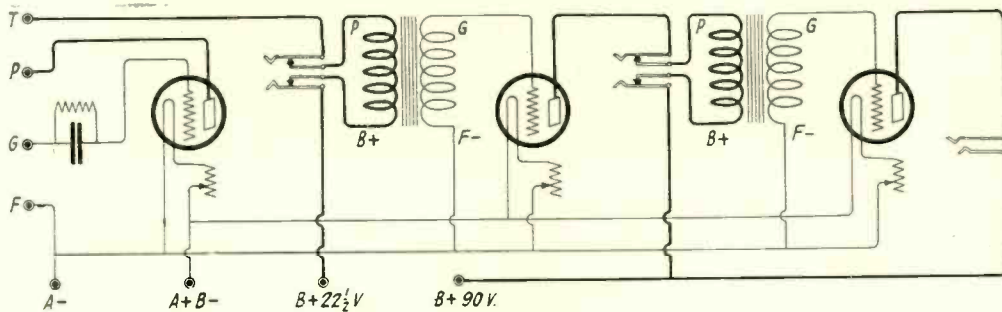

Figure 4
**T**HE handiest thing we know of around an experimenter's laboratory is a two-step amplifier with detector complete in a separate unit by itself. To this may be added all sorts of tuners and various hook-ups tried. Figure 4 shows such an arrangement. There are eight binding posts on the set, three rheostats, two transformers, three tube sockets